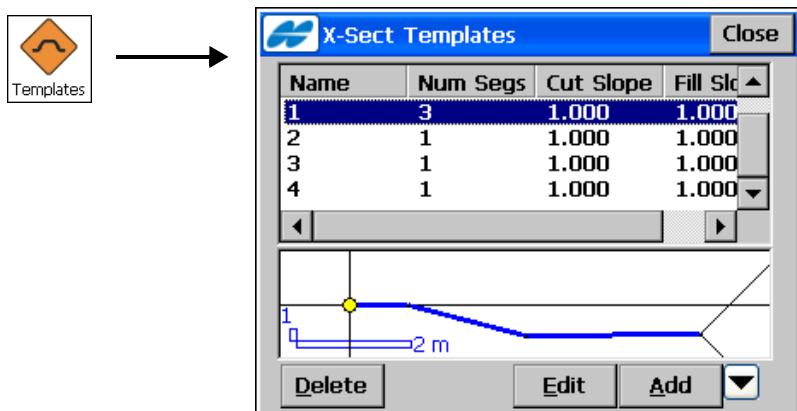

Figure 7-23. X-Sect Templates
The *X-Sect Templates* screen (Figure 7-23) displays a list of the existing templates in the upper part of the screen and a plot of the highlighted template in the lower part.
To edit an existing template, highlight it and tap the **Edit** button in the *X-Sect Templates* screen (Figure 7-23 on page 7-24).
- **OK** – saves the changes and returns to the *X-Sect Templates* screen (Figure 7-23 on page 7-24).